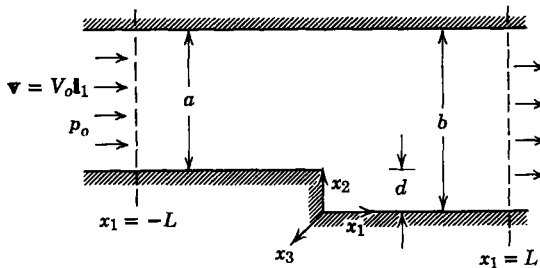

Fig. 12P.4
12.5. Far away from the rigid cylinder shown in Fig. 12P.5 the velocity of a fluid with density ρ is a constant $\mathbf{V} = V_0 \mathbf{i}_1$ and its pressure is p_0 . Assume that the fluid is incompressible and that the flow is steady and irrotational: